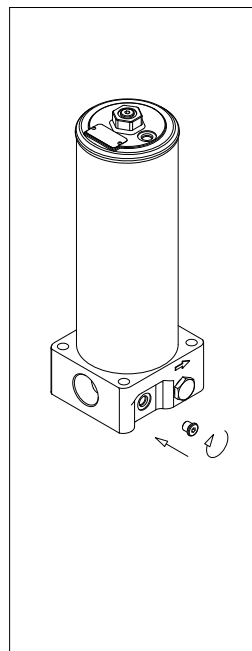

fig. 4
- (Fig. 4) Screw the drain plug in referring to the tightening torque table in paragraph 3